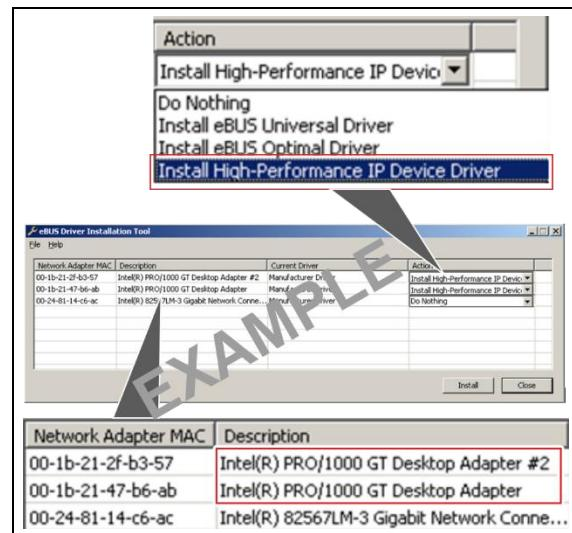

Figure 8
- (4) In the eBUS Driver Installation Tool window, select **Install High-Performance IP Device Driver** for all installed new NICs for the Varian detectors (Intel® PRO/1000 GT or Intel® Gigabit CT). Refer to Figure 8. In case of the installation on a laptop select the corresponding driver.